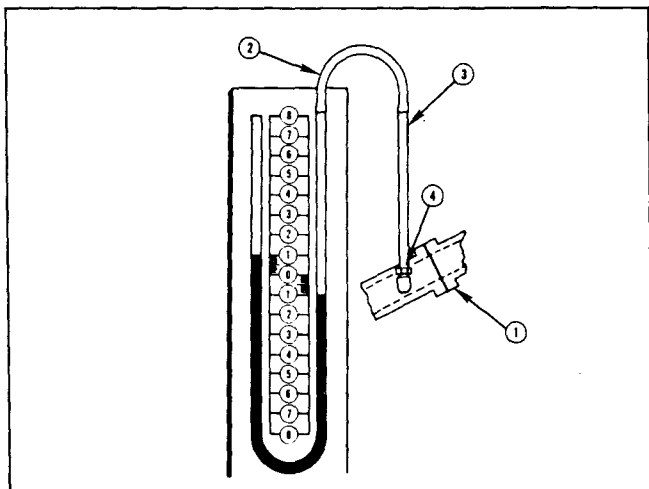

Fig. 11-1, (V11101). Measuring back pressure
4. The point of measurement must be as close as possible to the manifold or turbocharger outlet flange (1, Fig. 11-1) in an area of uniform flow such as a straight section of pipe at least one pipe diameter from any changes in flow area or flow direction.